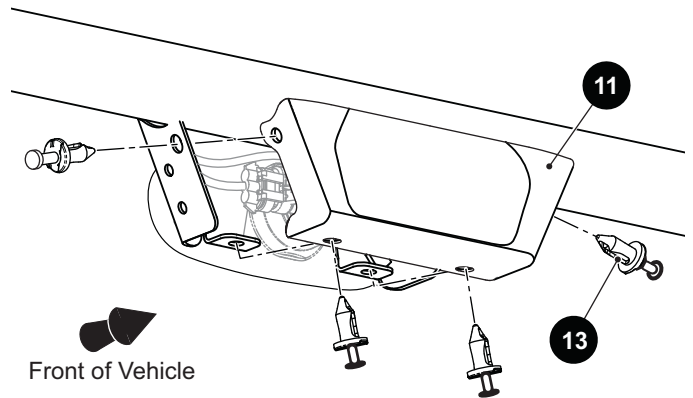

Fig. 4 CHMSL Back Cover
- Connect the CHMSL wiring harness to the exposed main harness coming from the extended cab ROPS tube (7).
- Align the mounting holes on the CHMSL back cover (11) with the mounting bracket holes and secure with removable rivets (13) (Ref. Fig. 4).